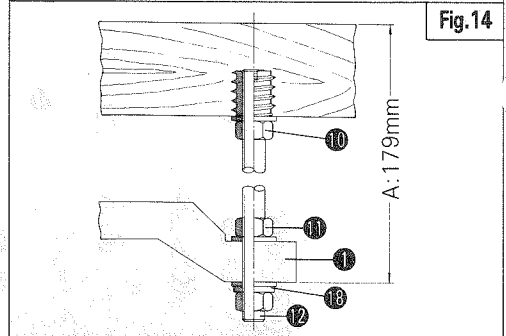

Fig.14
2. Refer to Figs. 14, 15. Insert Bolts ⑫ ⑬ into ⑧ and then fix ⑫ ⑬ with Nuts ⑩ ⑭.
3. Refer to Fig. 14. Tentatively connect Bracket ④ to Rest Board ① with Bolts ②.
4. Refer to Fig. 14. Fix Rest Board ① with Nuts ⑥ so that distance A is 179mm.